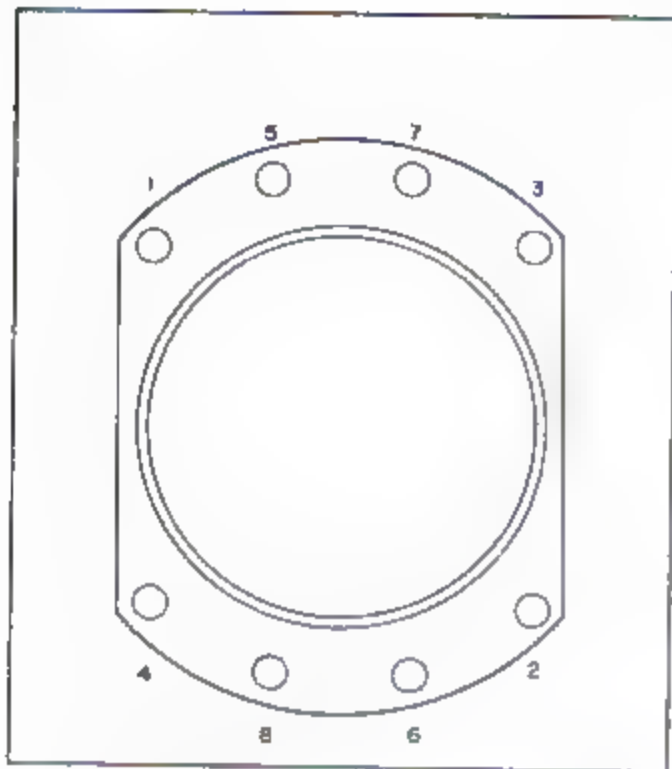

Figure 7-7. Cylinder Base Nut Torque
d. Tighten base nuts snug with a box end wrench. When all cylinders have been installed, use a torque indicating wrench and the special cylinder base nut wrench, tool group 4, to tighten all base nuts to the torque specified in Ref. No. T4, Section X, starting at No. 1 position in the diagram in figure 7-7 and proceeding in ascending order of sequence numbers. Finally, start at No. 1 position, and proceed in the clockwise direction around the base, again tightening to specified torque. Both nuts on crankcase through bolts must be tightened as described.